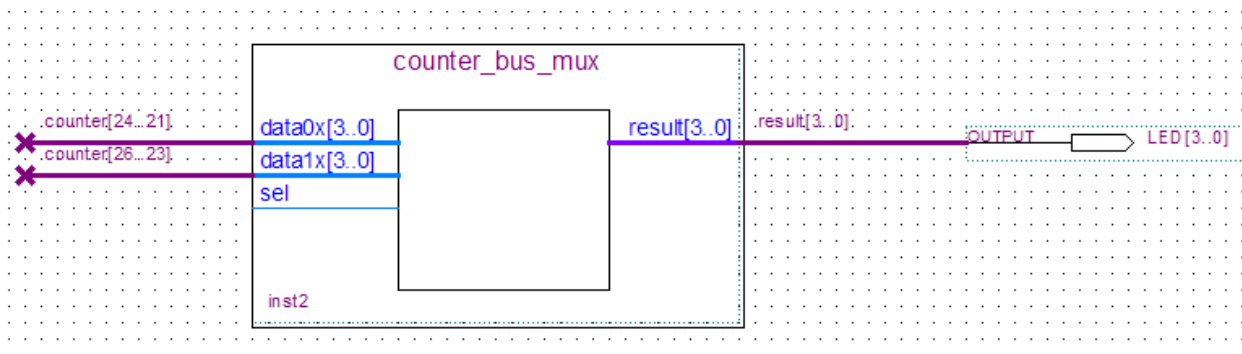

Figure 6-39 Rename the output pin
20. Rename the output pin as LED [3..0]. (see Figure 6-39).